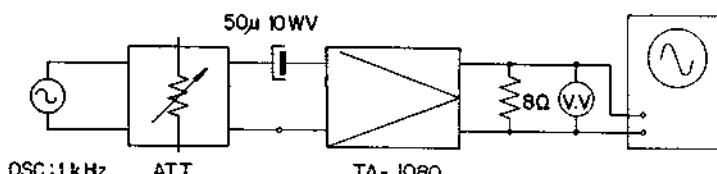
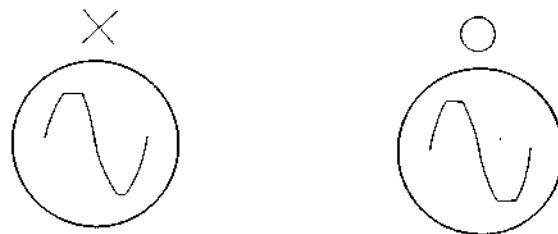

Fig. 1
Fig. 2
- (1) Removal of power amplifier and power supply section.
- (b) Remove five screws (RF3×6) from bottom of chassis to release the back panel section as in Fig.1.
- (d) Remove the five screws (RF4×10) from heat sink and unsolder the power amplifier input shield wire, now you can turn that section to make the circuit board up as shown in Fig.2 and Fig.3.
- (2) Removal of preamplifier section and control panel.
- (a) After taking off the chassis cover, remove the two screws (RF3×6) from front side of bottom plate as shown in Fig.1.
(Fig. 1)
(Fig. 2)
- 2) Supply 1 KHz signal to the input terminal (X_{107} or 207 Base) through attenuator and $50\mu F$ capacitor as shown in Fig. 1.
- 3) Increase the signal gradually and turn the adjustable resistor ($50K\Omega$, R160, R260) to get the both upper and lower side of wave form are clipped at the same time as shown in Fig. 2.